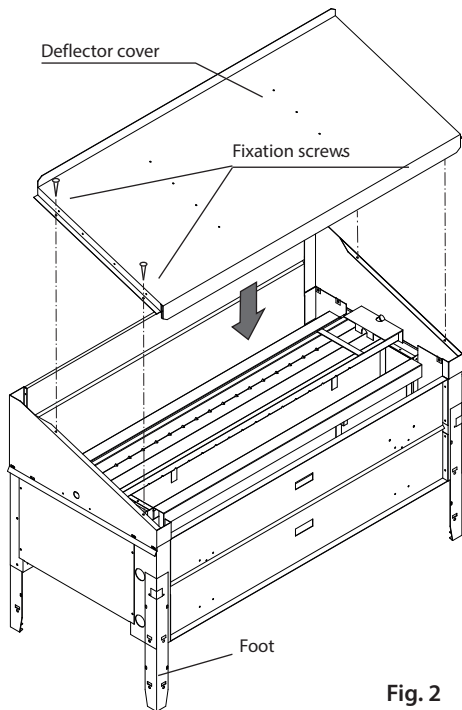

Fig. 2
- Loosen 4 screws on both sides of the deflector cover (see Fig. 2).
- Insert the feet on all corners into the corresponding grooves and fasten with 3 screws (see Fig. 2).